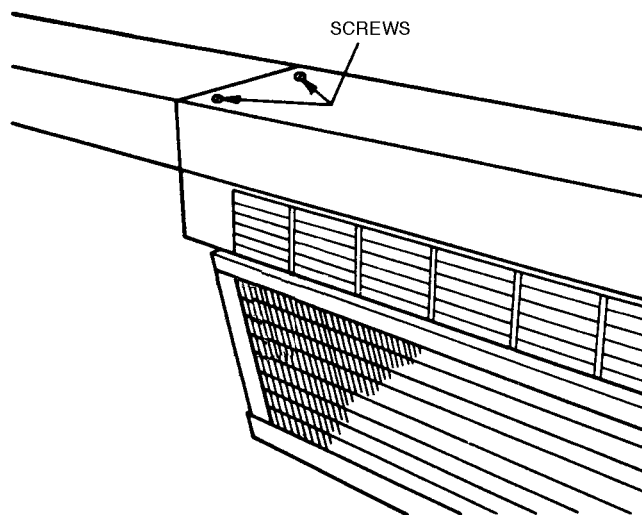

FIGURE 7 — DUCT EXTENSION SCREWS
3. Remove the 2 screws that secure the lateral duct extension to the top of the lateral duct adapter as shown in Figure 7.